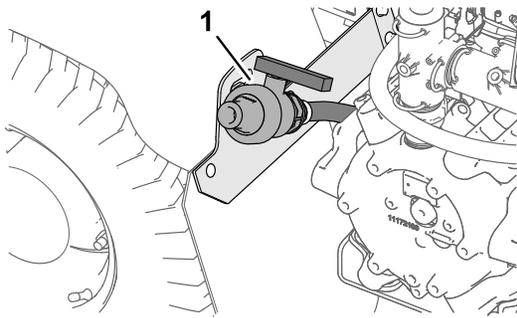

Figure 49
2. Locate the tank-drain valve at the left, rear fender of the machine (Figure 49).